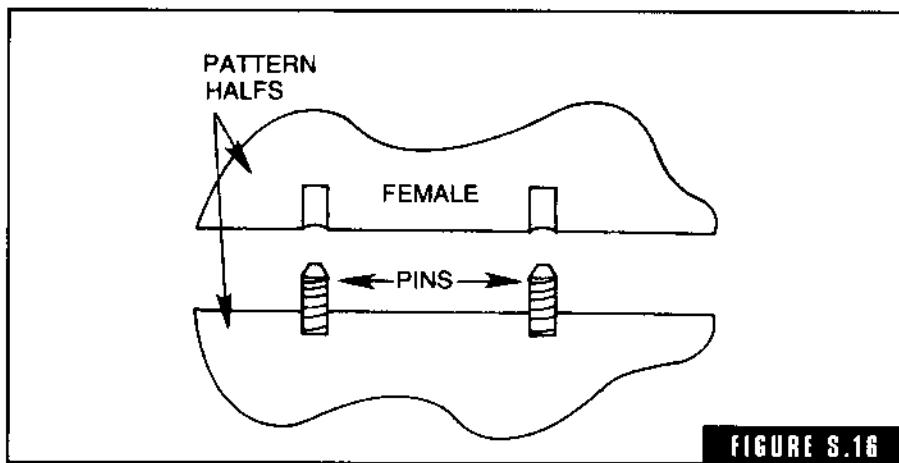

FIGURE S.16
**split pattern** A pattern made in two halves split along the parking line (Fig. S-16). The two halves are held in register by pins called *pattern dowels*. The pattern is split to facilitate molding.